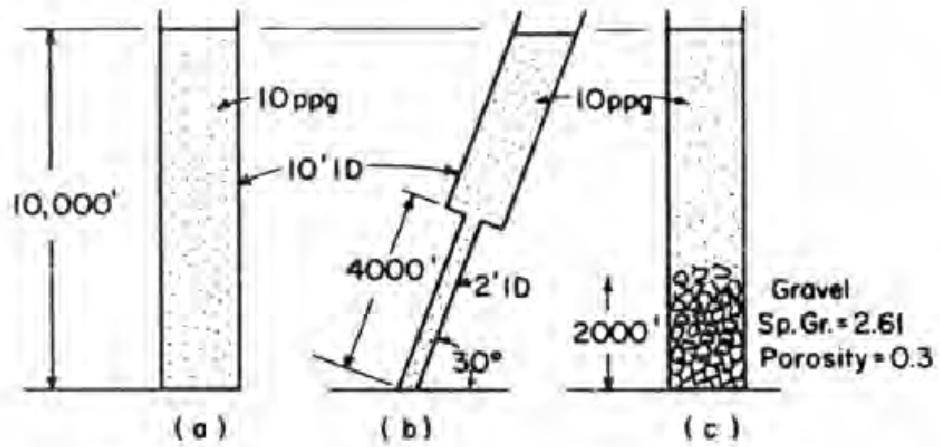

Figure 1
- a. What is the hydrostatic pressure at the bottom of the fluid column for each case shown in **Figure 1** below? **(3 points)**